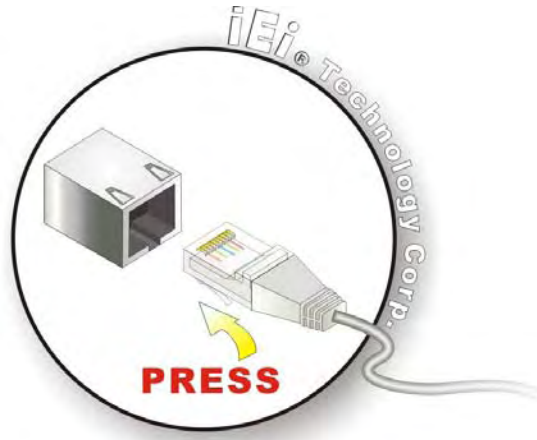

Figure 3-8: LAN Connection
Step 2: Align the connectors. Align the RJ-45 connector on the LAN cable with one of the RJ-45 connectors on the bottom panel. See Figure 3-8.